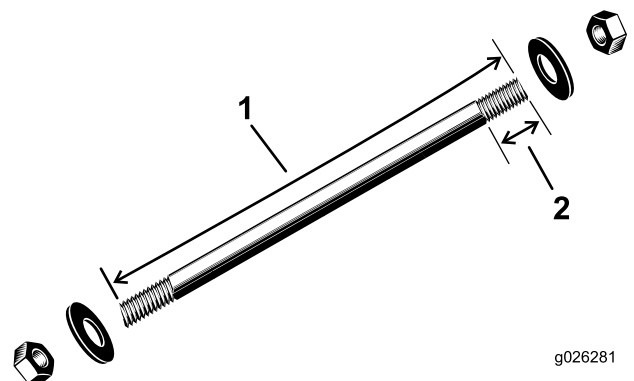
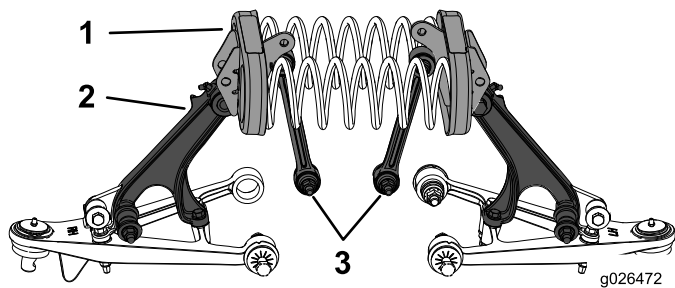

Figure 17
Figure 18
1. Using a compression spring tool as specified in Figure 17, install the compression spring rod through the holes in each spring cradle (Figure 18).